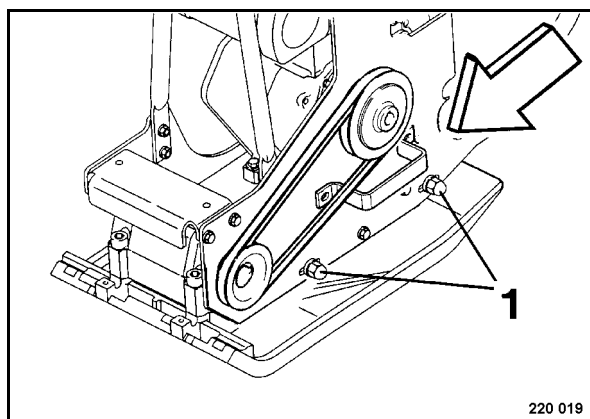

Fig. 45
- Slightly loosen two fastening screws (1) (Fig. 45) on both sides of the engine carrier.